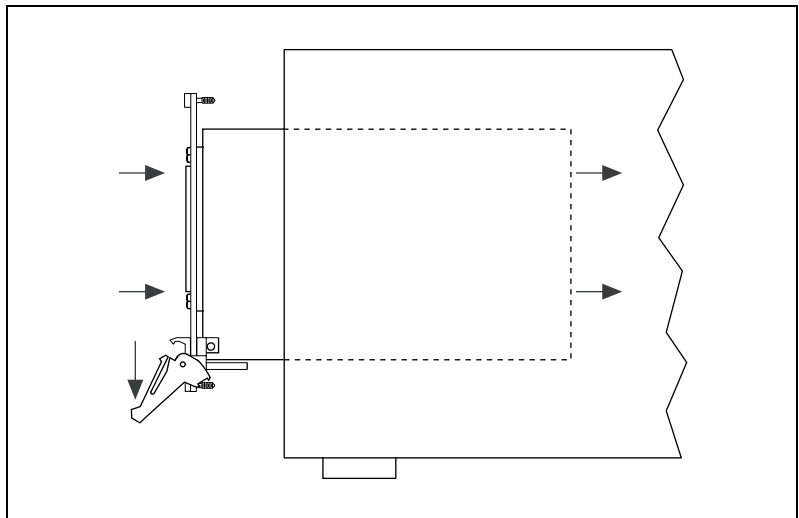
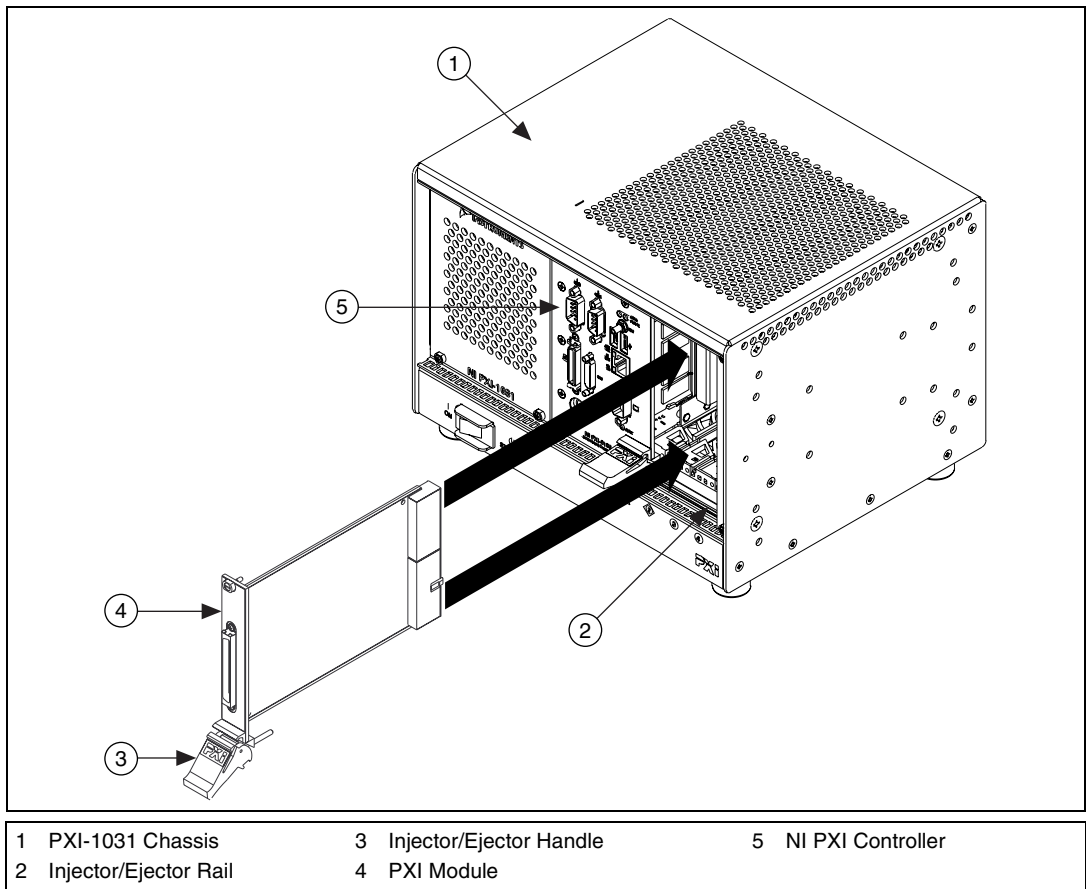

Figure 2-2. Injector/Ejector Handle Position during Controller or Peripheral Module Insertion
Figure 2-4. Installing PXI or CompactPCI Modules
2. Install the controller into the system controller slot (slot 1, indicated by the red card guides) by first placing the controller edges into the front controller guides (top and bottom). Slide the controller to the rear of the chassis, making sure that the injector/ejector handle is pushed down as shown in Figure 2-2.
2. Install a module into a chassis slot by first placing the module card edges into the front module guides (top and bottom), as shown in Figure 2-4. Slide the module to the rear of the chassis, making sure that the injector/ejector handle is pushed down as shown in Figure 2-2.